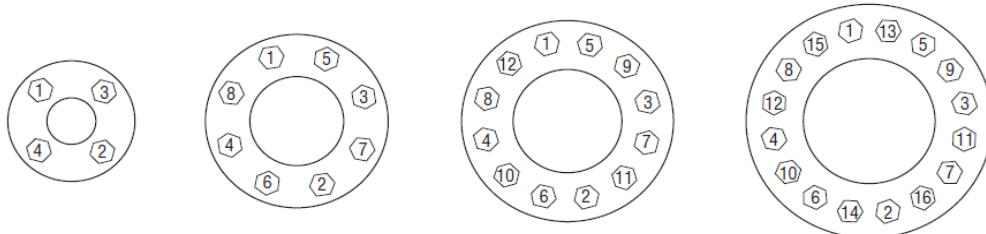

Figure 1
6. In valve installation, please use wrench and follow diagonal sequence (Figure 1) to lock screws in order to prevent flange from deformation.